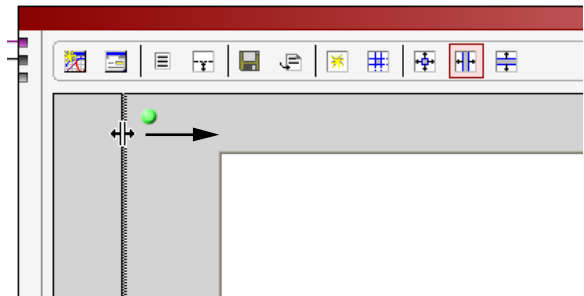

Figure 27. Resizing Analysis Results
3. In **Input Formatter** (see Figure 25 through Figure 27), click the **Settings...** button. Then change the **Number Format** to two's complement. Next, change both the **Resolution** and **Alignment** to 14. Click **OK**.
Next, resize the **Analysis Results** panel on the left side of the **Graph** component by positioning the mouse cursor over the vertical divider bar and drag to a new location (see Figure 27).